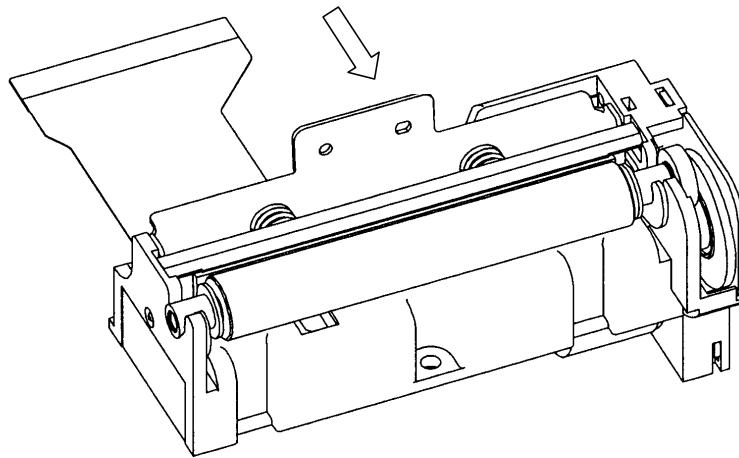

Figure 8-1 Loading Paper (1)
- Turn the lever (projection) of the lock arm in the direction of the arrow shown in **Figure 8-1**.